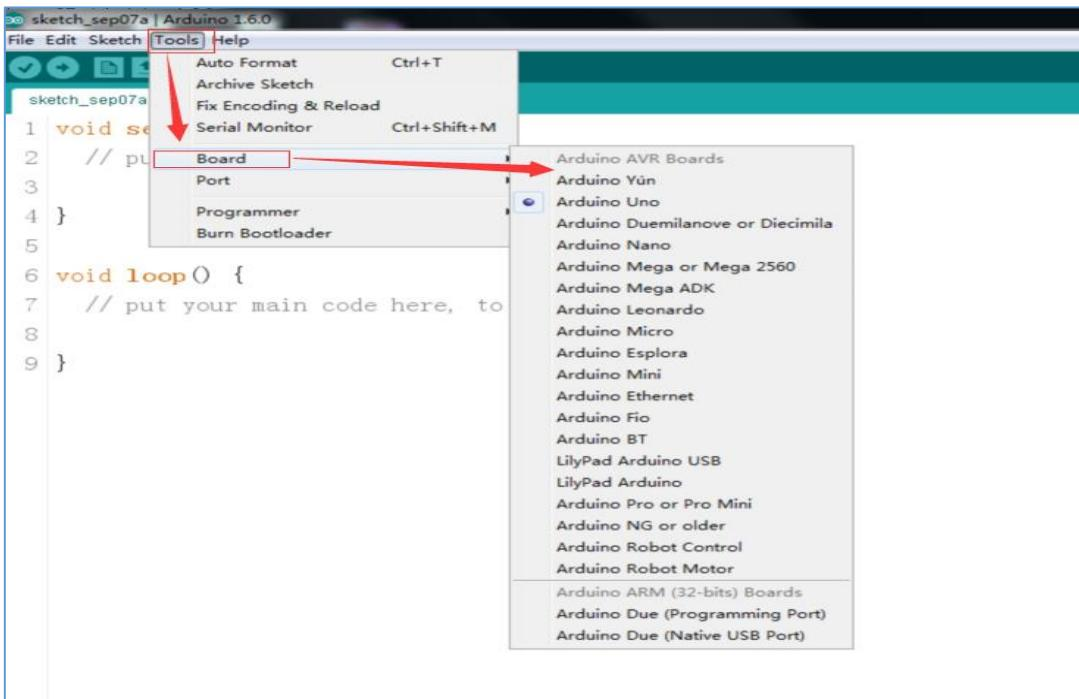

Figure 2.1.14 Tools interface
3、Click Tools, the interface shown in Figure 2.1.14 will pop up. Here we can see two options: Board and Port. In the board option, we can see the commonly used Arduino development board model, we only need to choose according to their own development board. In the Port option, the USB serial port is mainly selected, as shown in Figure 2.1.15. If you are not sure, you can check it in the "Device Manager" and select the corresponding COM port.